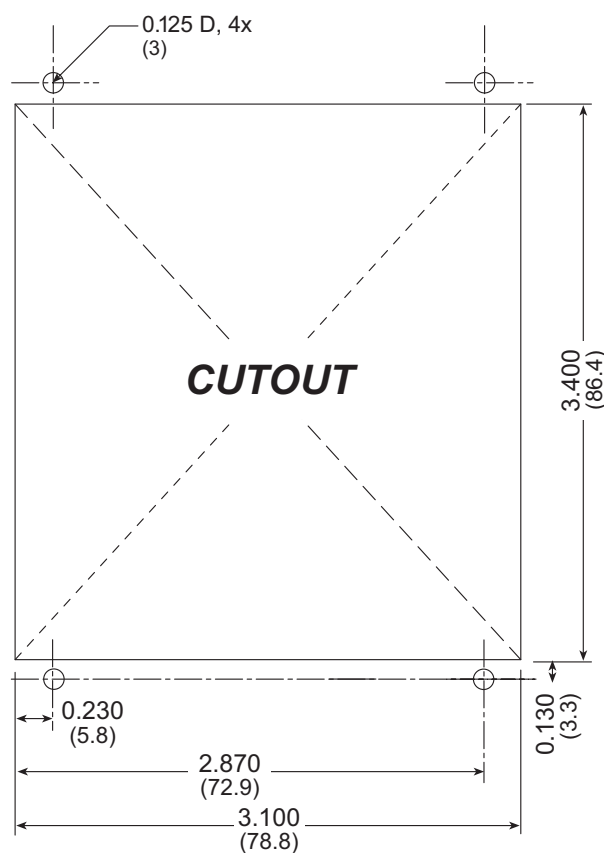

Figure 20. Recommended Cutout Dimensions
1. Cut mounting holes in the mounting panel in accordance with the recommended dimensions in Figure 20, then use the bezel faceplate to mount the OP6800 onto the panel.